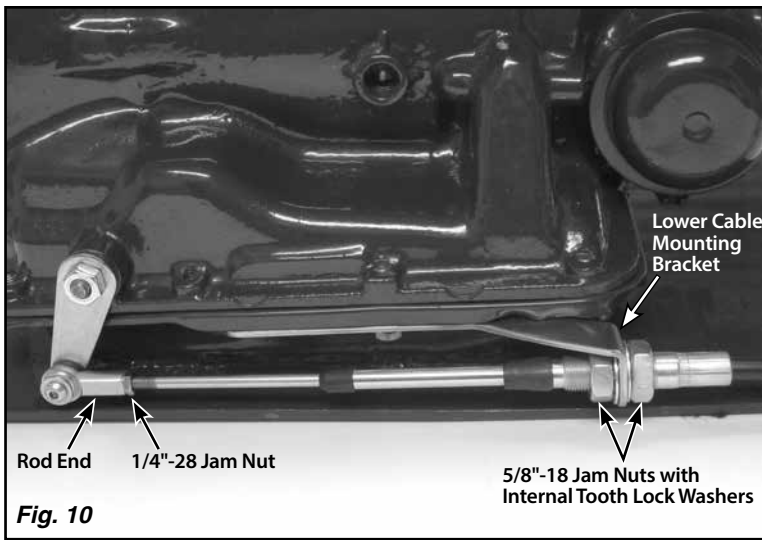

Fig. 10
- **TH350 and TH400** transmissions use a 1/4"-28 x 1" button head bolt, flat washer, and nylock nut. The rod end attaches to the outside of the trans gear lever, away from the transmission. The button head bolt can be installed from either direction, but make sure the rod end is sandwiched between the flat washer and the trans gear lever. **Fig. 10 & 11**
- **700-R4, 200-4R, and 4L60** transmissions use a 1/4"-28 x 1" flat head bolt, flat washer, and nylock nut. The flat head bolt is installed from the inside of the trans gear lever, and the rod end attaches to the outside of the trans gear lever, away from the transmission. Make sure the rod end is sandwiched between the flat washer and the trans gear lever. **Fig. 10 & 12**
- **4L60E** transmissions use a 1/4"-28 x 1" button head bolt, a 1/8" spacer, a flat washer, and a nylock nut. The rod end attaches to the inside of the trans gear lever, towards the transmission. The 1/8" spacer goes between the rod end and the trans gear lever. The button head bolt can be installed from either direction, but make sure the rod end is sandwiched between the flat washer and the spacer. **Fig. 10 & 13**